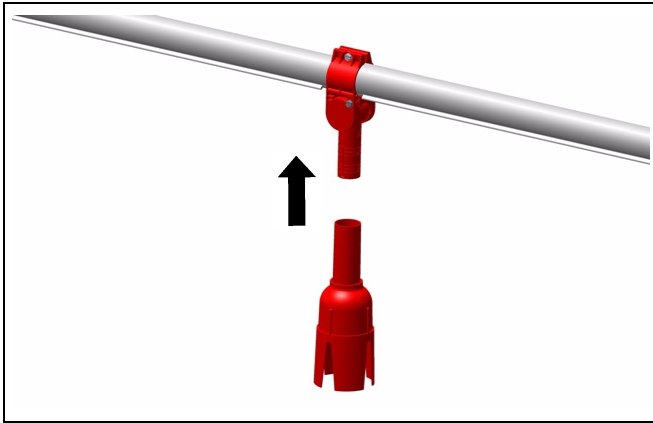
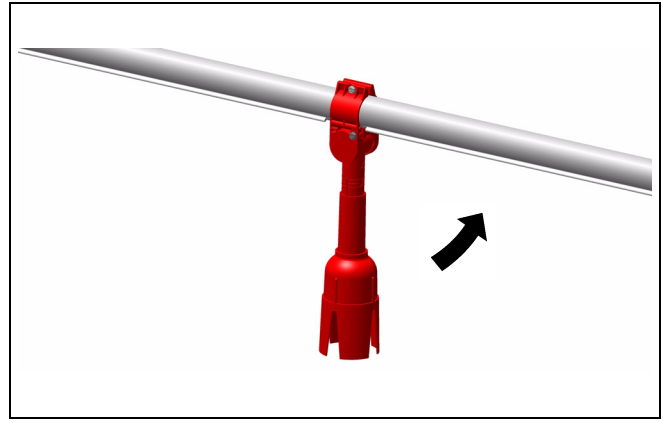

Figure 3
Figure 4
- Slide the chick booster extension (C2000116) into the chick booster cone (C2000117) and assemble to the chick booster tube as shown in Figure 3 and Figure 4.